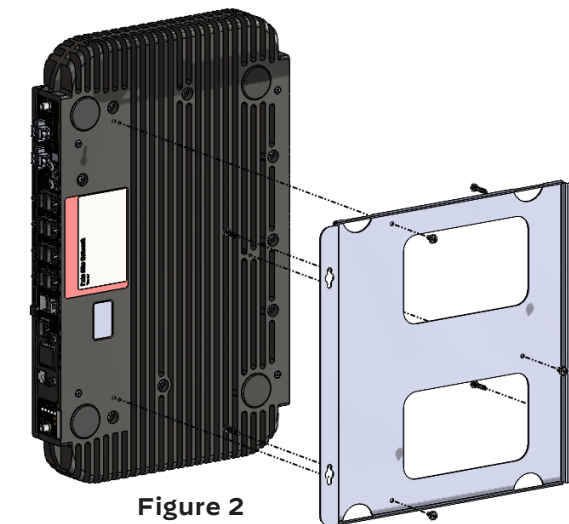

Figure 2
- 2 Attach the firewall to the wall mount using three #6-32 screws and a #2 Phillips-head screwdriver. See **Figure 2**.